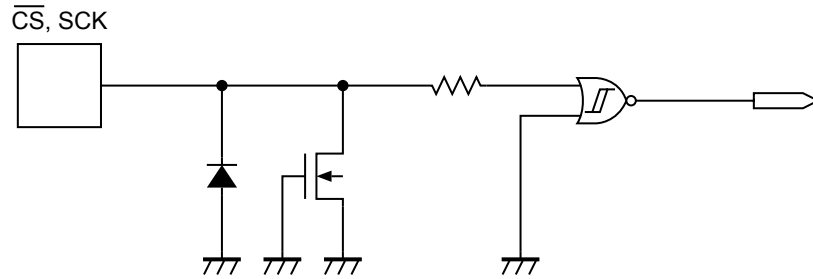

Figure 19  $\overline{CS}$ , SCK Pin
**Figure 19** and **20** show the equivalent circuits of input pins in S-25A080A/160A/320A. A pull-up and pull-down elements are not included in each input pin, pay attention not to set it in the floating state when you design.